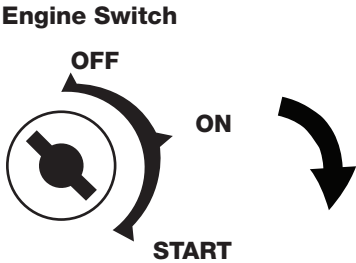

FIGURE 10
5.2.4 Turn the circuit breaker switch to the ON position. **FIGURE 10.**